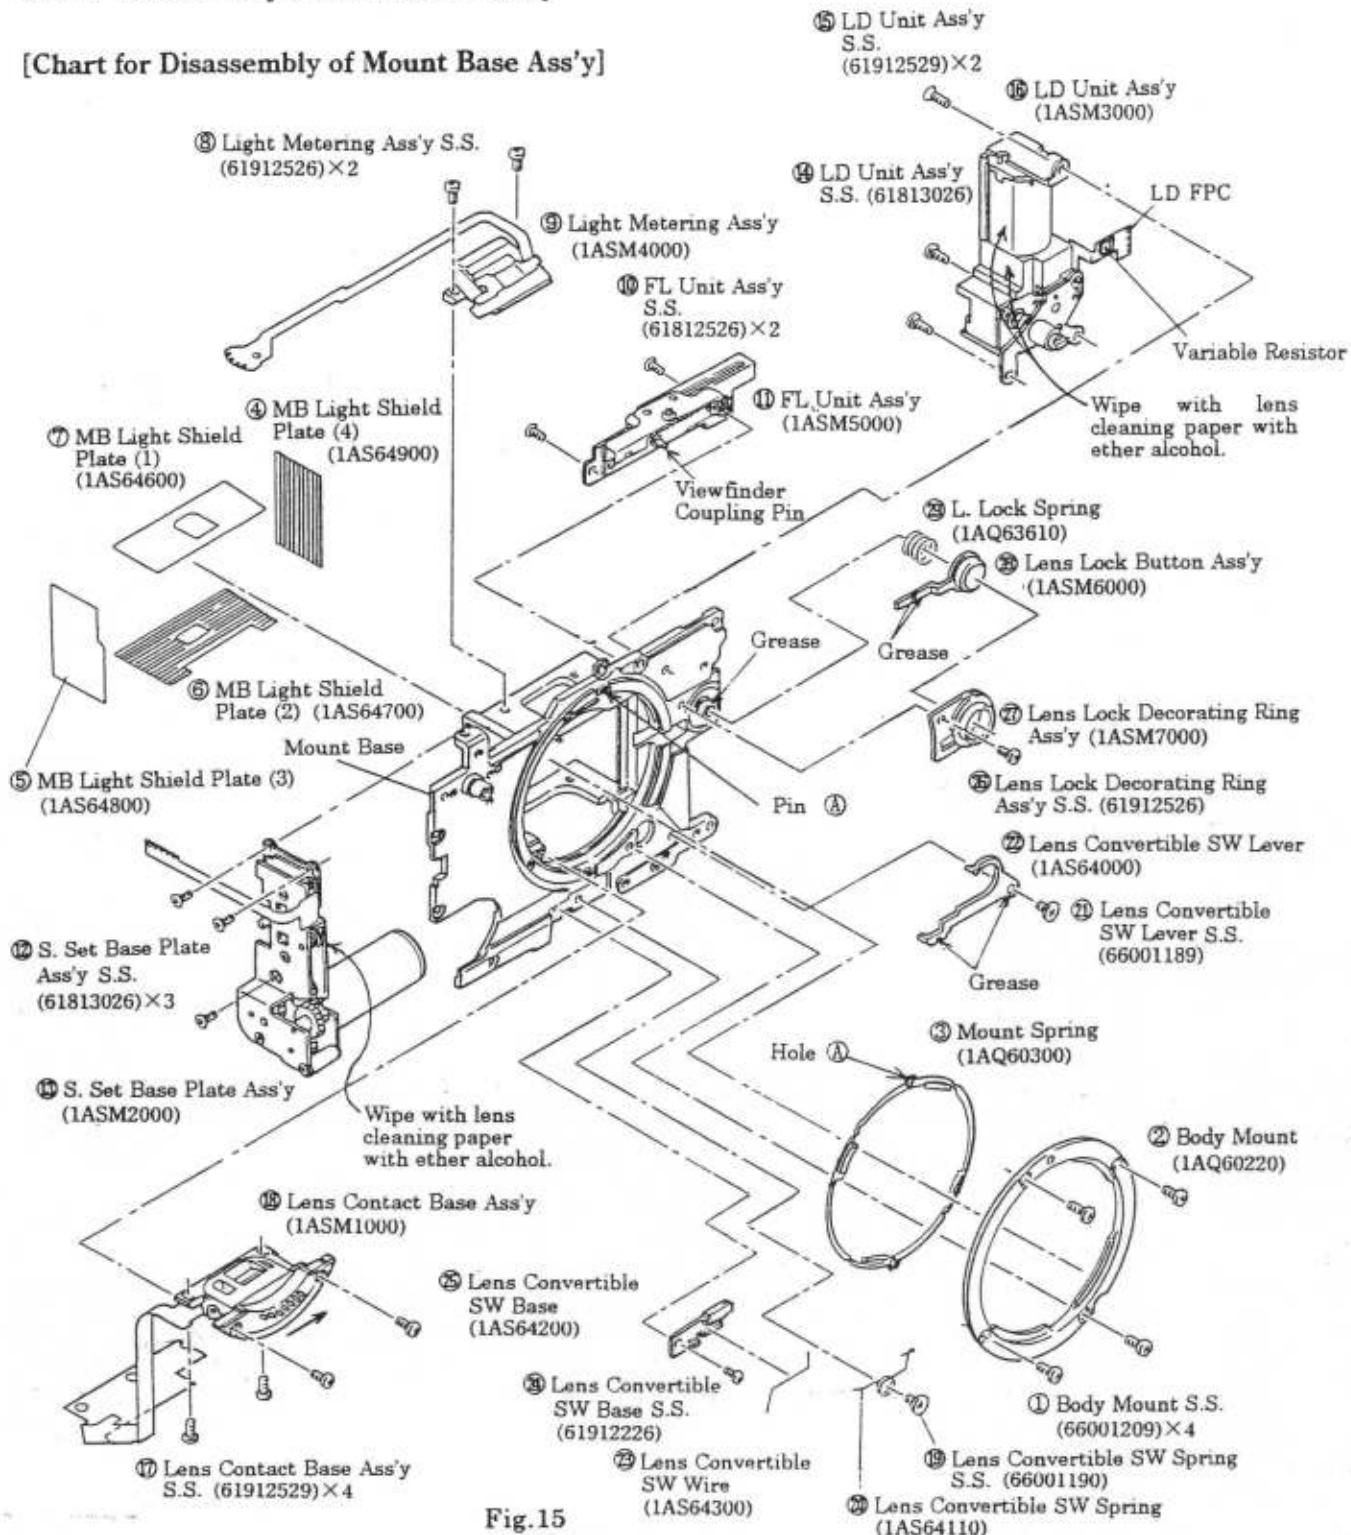

Fig. 15
- 1) Remove parts in the numerical order of ① to ⑨ shown in Fig. 15.
- 3) Remove parts in the numerical order of ⑩ to ㉙ shown in Fig. 15.
- Do not use any of the MB Light Shield Plate (1) (1AS64600), MB Light Shield Plate (2) (1AS64700), MB Light Shield Plate (3) (1AS64800) and MB Light Shield Plate (4) (1AS64900) that have been peeled off once, since their adhesive strength is weak.
- Be sure to apply Grease (LOGENEST LAMBDA A-74) to the specified positions. (See Fig. 15)
- a) When installing the Lens Contact Base Ass'y (1ASM1000), push it in the direction of the arrow as shown in Fig. 15 and tighten the Lens Contact Base Ass'y Setscrews (61912529)  $\times$  4.
- d) Attach the MB Light Shield Plates (1), (2), (3) and (4) with the front surface of the Mount Base as the datum line. Stick the MB Light Shield Plates so that they do not float or are not dislocated.